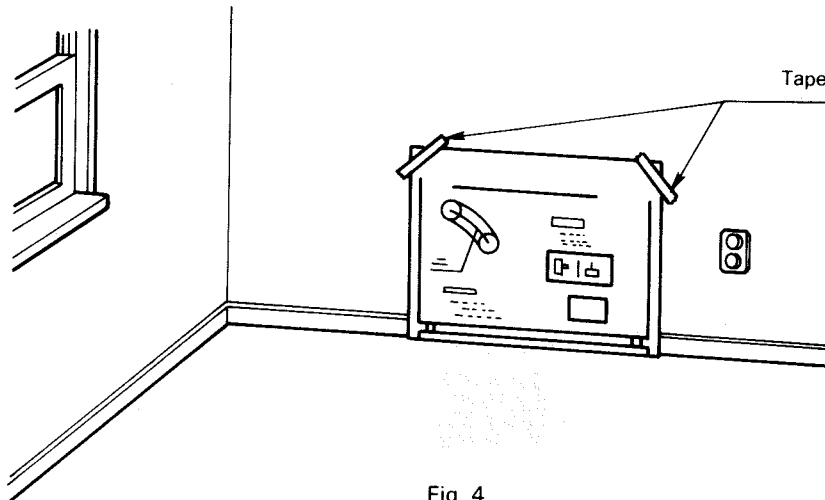

Fig. 4
3. For standard installation, use the template enclosed with the heater to position the hole for the standard flue pipe. Tack or tape template to the wall at the desired position (See Fig. 4).